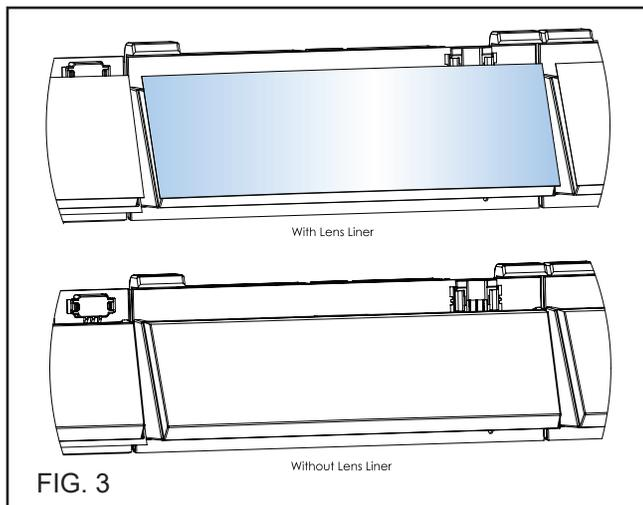
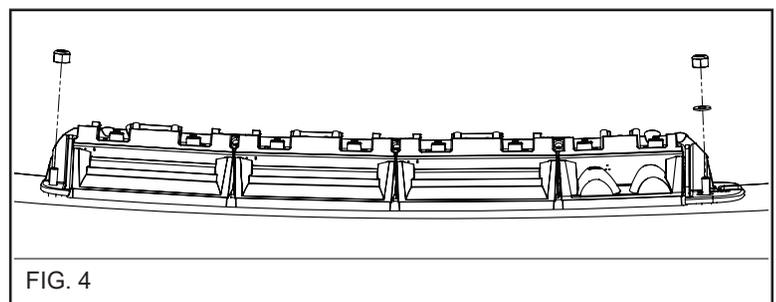

FIG. 3
FIG. 4
4. Remove protective lens liners from the Lightbar Inner Assembly that will be installed as shown in **FIG. 3**. Place the Lightbar Inner Assembly over the studs as shown, with the slot towards the center of the windshield, and install 8-32 lock nuts and washer as shown. The nuts should be tightened to 10 inlb. This process is shown in **FIG. 4**.